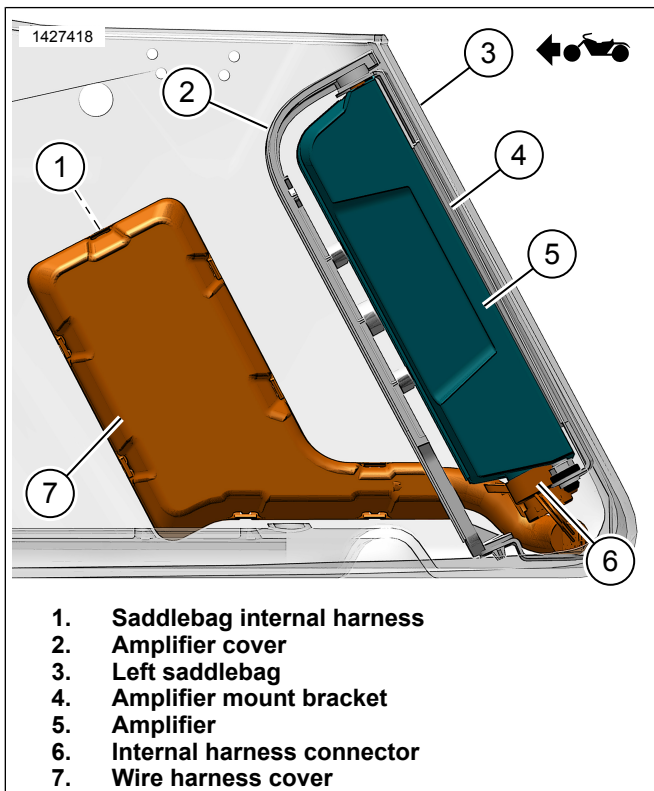

Figure 8. Saddlebag Harness with Amplifier
13. See Figure 8. Install amplifier mount bracket assembly.